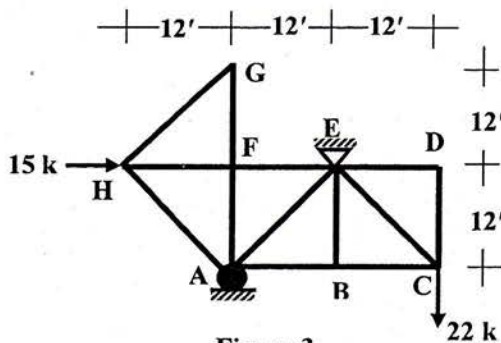

Figure 3
- [3] Use the Virtual Work Method to determine the deflection $\Delta_{H(\rightarrow)}$ and $\Delta_{C(\downarrow)}$ of the truss shown in Figure 3. Given, $EA = 75 \times 10^3$ k. (20)